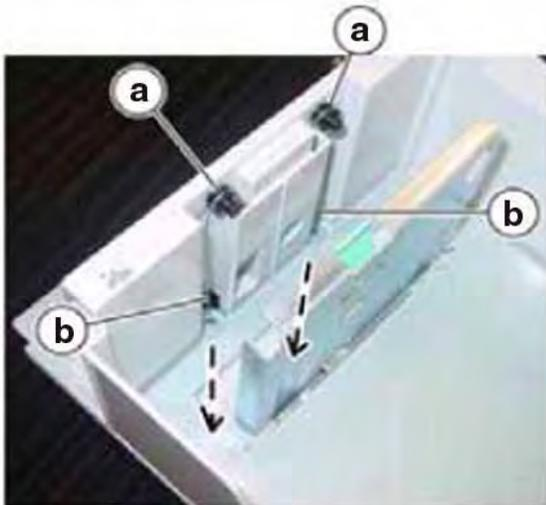

Figure 7 Cable Removal
9. Remove the Cables (Figure 7):
- a. Remove the Pulleys (2).